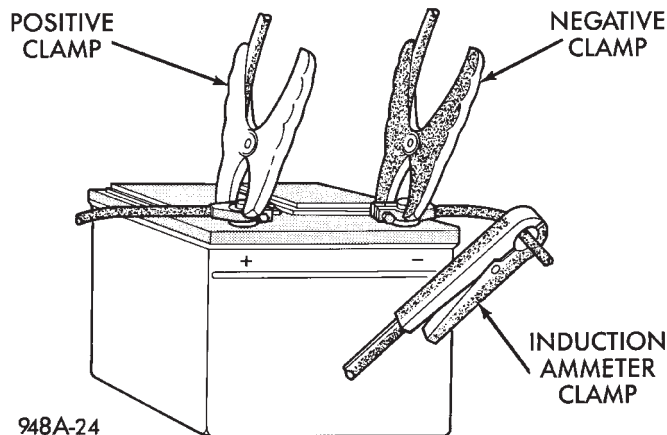

Fig. 1 Volts-Amps Tester Connections - Typical
- (1) Connect a suitable volt-ampere tester to the battery terminals (Fig. 1). Refer to the operating instructions provided with the tester being used.
- (2) Fully engage the parking brake.
- (3) If the vehicle is equipped with an automatic transmission, place the gearshift selector lever in the Park position. If the vehicle is equipped with a manual transmission, place the gearshift selector lever in the Neutral position and fully depress the clutch pedal.
- (4) Verify that all lamps and accessories are turned off.
- (5) To prevent the engine from starting, unplug the Automatic ShutDown (ASD) relay. The ASD relay is located in the Power Distribution Center (PDC).